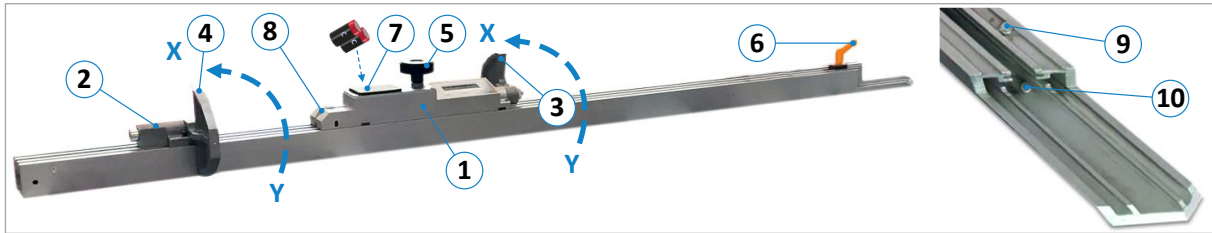

Figure 62: Tele-Digit components
- Open the battery compartment (7) shown in ⇒ Figure 62 and replace the two batteries.
- Move slider (1) all the way to the right against end stop screw (9) and clamp with clamping screw (5).
- Move the pull-out (2) all the way to the right against the end stop screw (10) and clamp it with lever (6).
- Move flip stop (3) to position X for slider (1) (see ⇒ Figure 62)
- Measure the distance between the saw blade and the flip stop (2) to the nearest 0.1 mm.